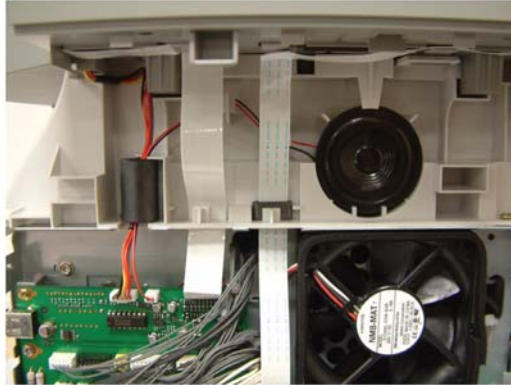

Figure 2
3. Remove the front panel and CIS ribbon cables from their cable guide, Figure 2.